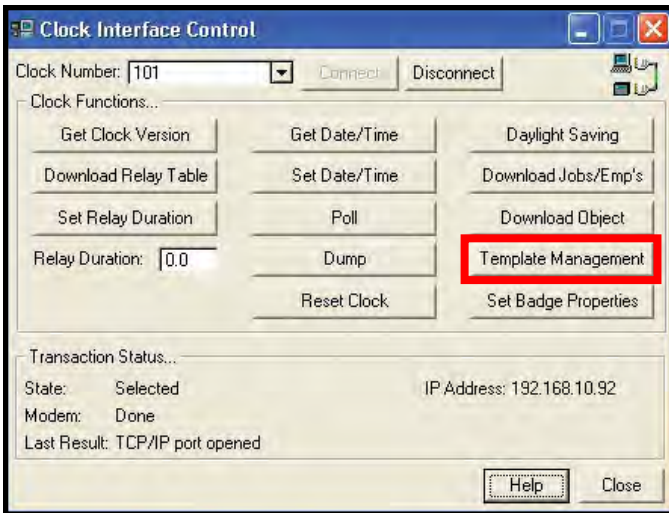

Figure 58. Out-of-the-Box™, Clock Interface window
- III. Select the clock number that corresponds to your Smart Clock with Fingerprint Reader and click the "Connect" button. Once connection is established, click the "Template Management" button (see Figure 58).